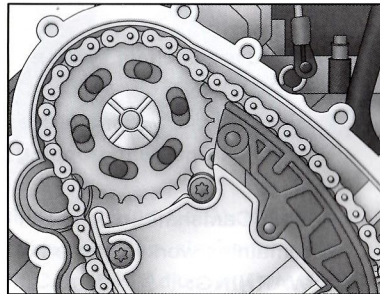

Fig.30
- (1) Ensure the crankshaft is positioned at TDC on No.1 cylinder with Crankshaft Locking Pin (Part No.E) fitted and that the camshafts are in "timed" positions with Camshaft Locking Pin (Part No.D) correctly installed.
- (2) Refit the cylinder head, remove Camshaft Locking Pin (Part No.D) to allow installation of the timing chain, camshaft sprocket and chain tensioner.
- (3) Install the camshaft sprocket and the chain, the elongated holes in the camshaft chain sprocket must be aligned centrally over the tapped holes in the camshaft. (Fig.30)